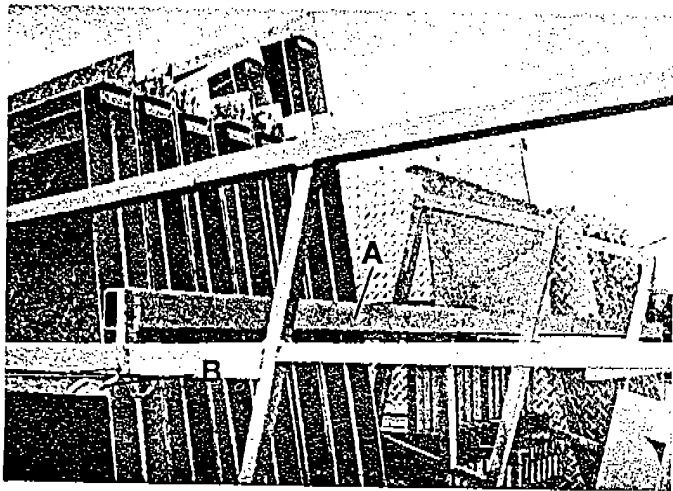

Fig. 79
- Rest the blank center area of the holding rack on the console seat (a). (Fig. 79)
- Slip the legs at the ends of the holding rack in the holes in the two outside handrails on the gooseneck ramp. *Snap Key in Place* (b). (Refer to Fig. 79)